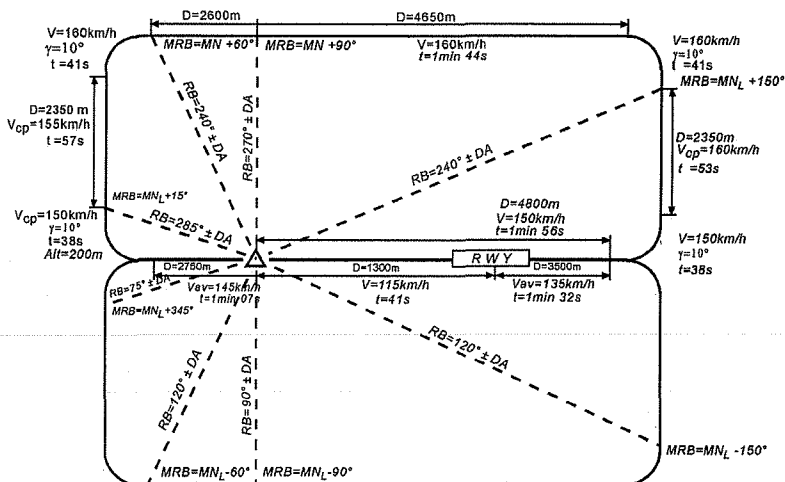

Fig. 4.3 Wide Rectangular Approach Traffic pattern
- (1) Execute instrument landing approach and landing in clouds or under hood by referring to the locator middle marker (LMM) placed at a distance of 1300 m from the landing point. In preparing for flying rectangular approach traffic pattern calculate from the known wind the magnetic headings, estimated time of flight for each segment of the approach traffic pattern, relative and magnetic bearings of the marker locator for all turning points and on-the-beam positions with the drift angles taken into consideration. Tabulate the data obtained and use for flight. The recommended altitude for flying approach traffic pattern is 300 m, the horizontal flight speed is 160 km/h IAS, the bank angle to be maintained in turns is 10°. The diagram of the wide rectangular approach traffic pattern, is shown in Fig. 4.3.
- (2) After takeoff establish a selected climb condition at an airspeed of 150 km/h and a rate-of-climb of 3 to 4 m/s.